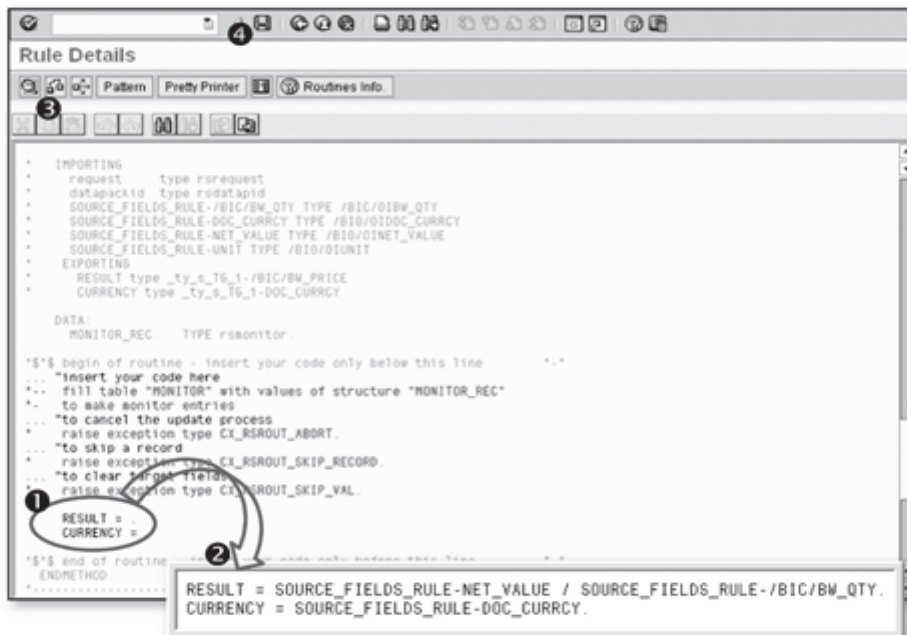

Figure 7.75 ABAP Routine
Replace the lines shown in ❶ of Figure 7.75 with the lines shown in ❷ of Figure 7.75. Check your ABAP routine using the Check icon (❸ of Figure 7.75), and save the ABAP routine (❹).